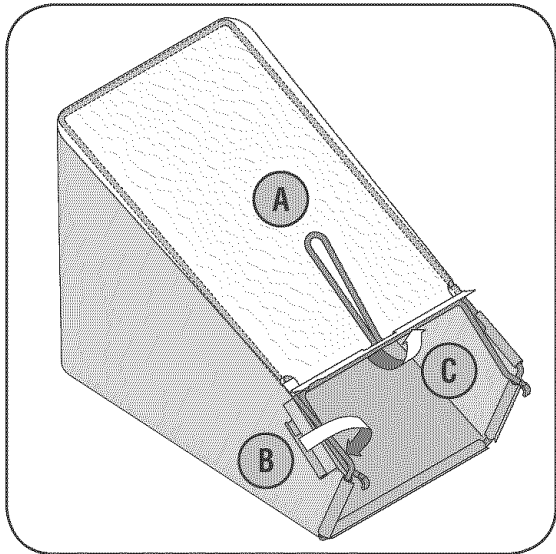

Figure 3-5: Assemble the grass catcher.
- Slip plastic channel of grass bag over hooks on the frame, Figure 3-5. All the plastic channels except center top of bag attach from outside of bag.